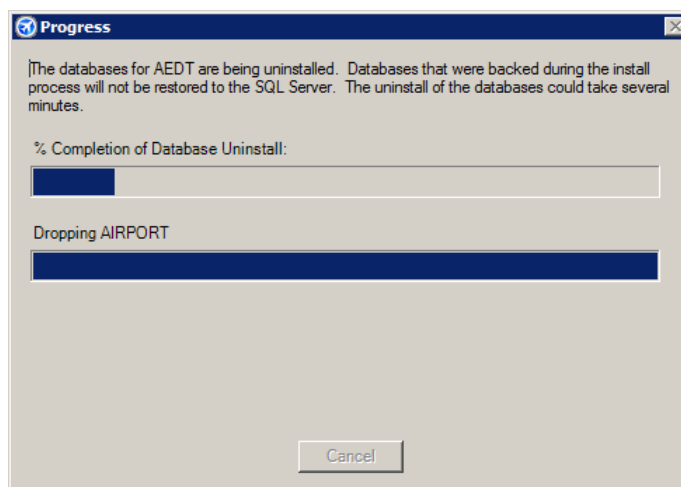

Figure 2-36 Progress Window
7. A dialog box will open as shown in Figure 2-36 below. No action is required.